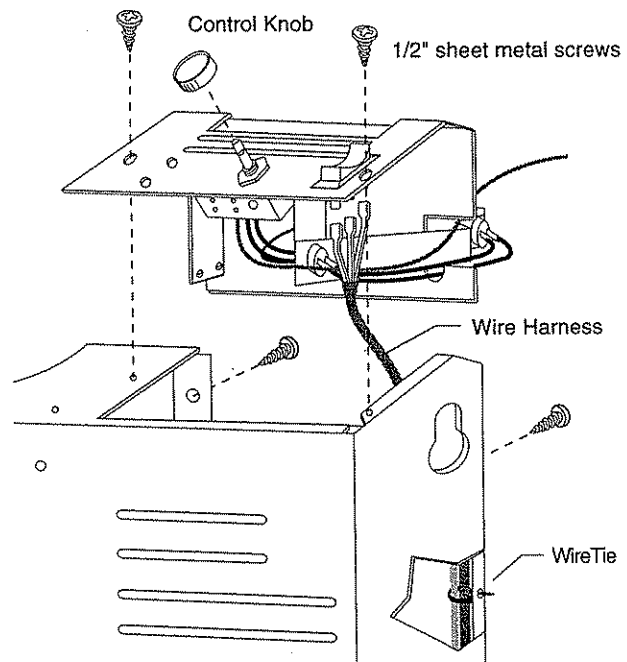

Figure 22. Install Off/On Switch Cover plate. Place the four sheet metal screws as shown. Push on the knob.
7. Install the Control Switch Cover onto the Back Panel using the four #10 x 1/2" sheet metal screws supplied in the parts bag. Fig. 22.